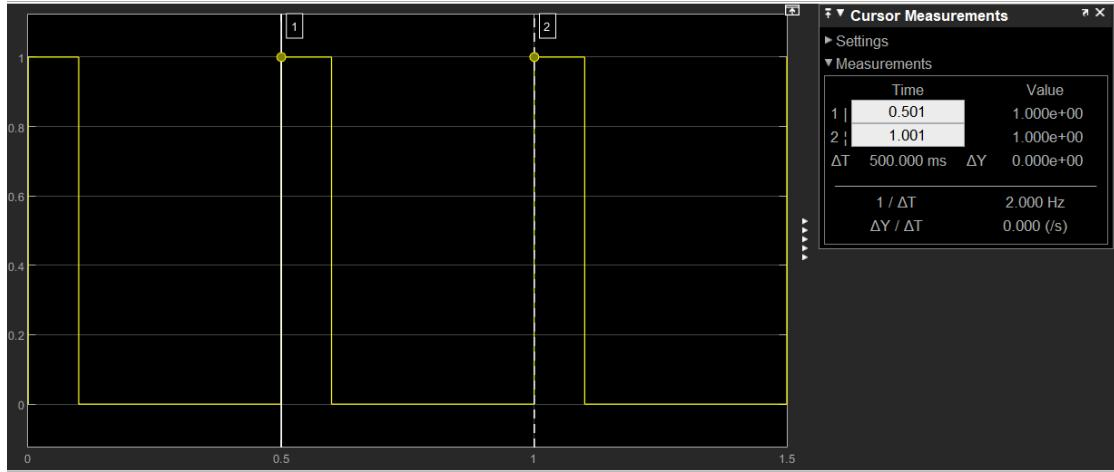
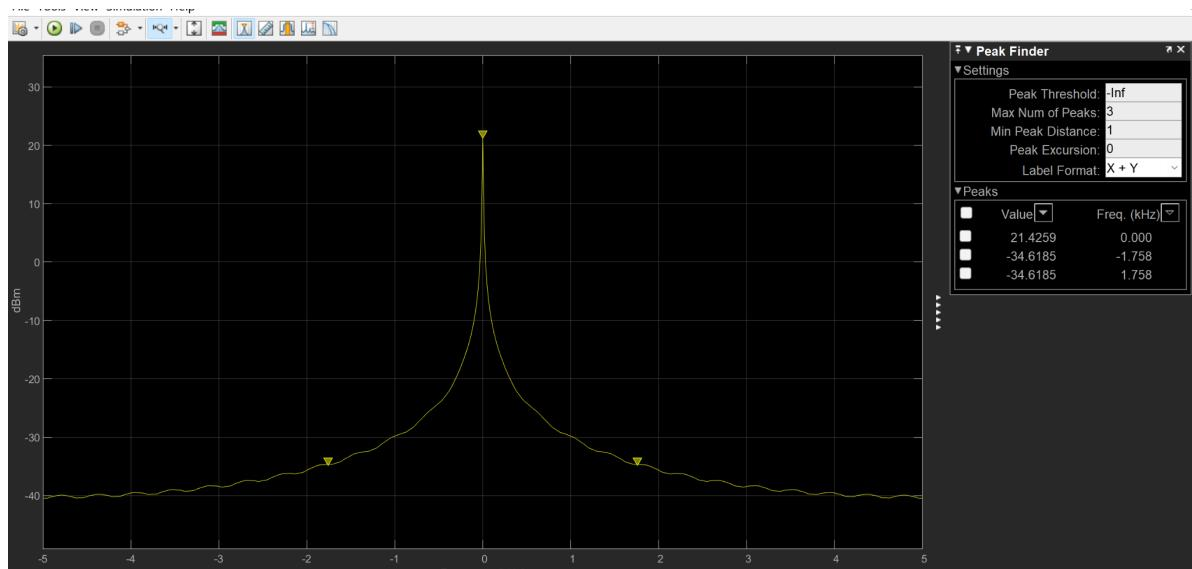

*Fig. 5: Output of the square-wave (50% duty cycle) on the Scope*
*Fig. 6: Output of the square-wave (50% duty cycle) on the Spectrum*
- 3) We repeated step one with a square wave, with a 50% duty cycle, generated by the pulse generator. We set its pulse type to sample based and sample time to 1e-4. The outputs on the Scope and the Spectrum are shown in Fig. 5 and Fig. 6.